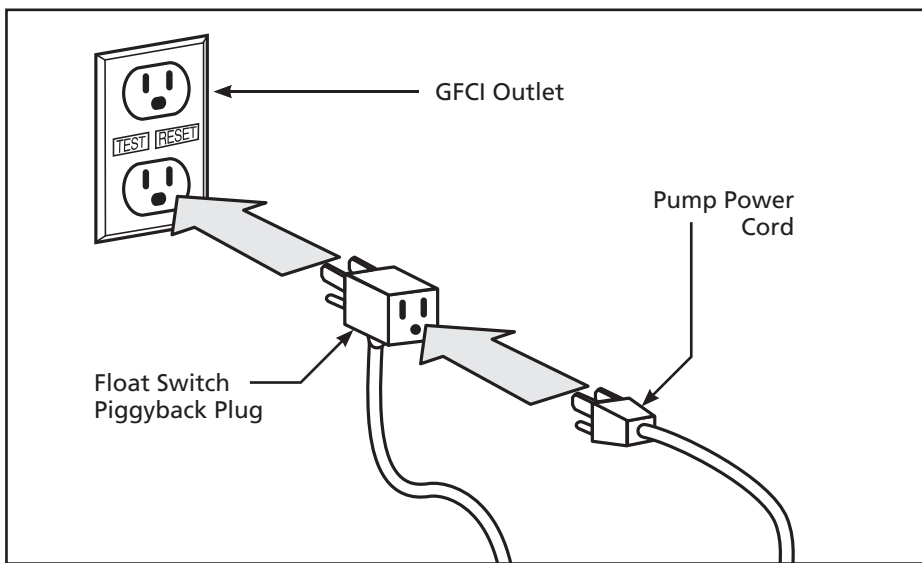

Figure 6: Piggyback Plug and Power Cord
5. Insert the pump power cord plug directly into the back of the float switch cord plug (See Figure 6).